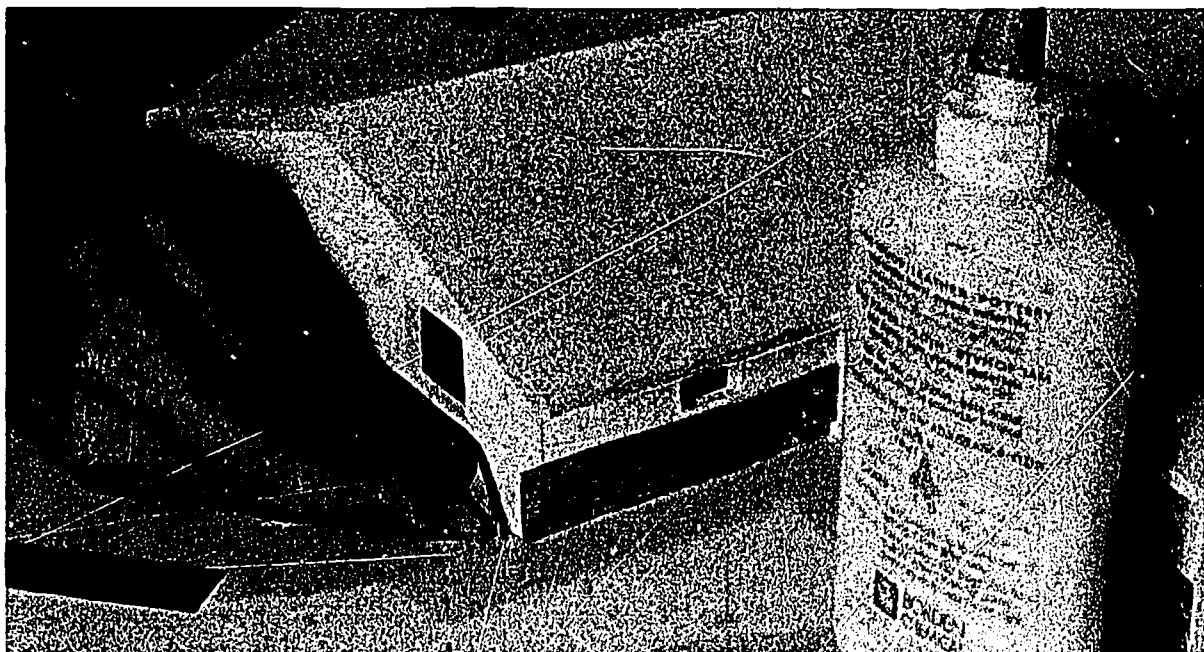

Fig. 88-1. Applying Veneer
2. Measure, cut, and install brick or stone veneer as shown in Fig. 88-1.